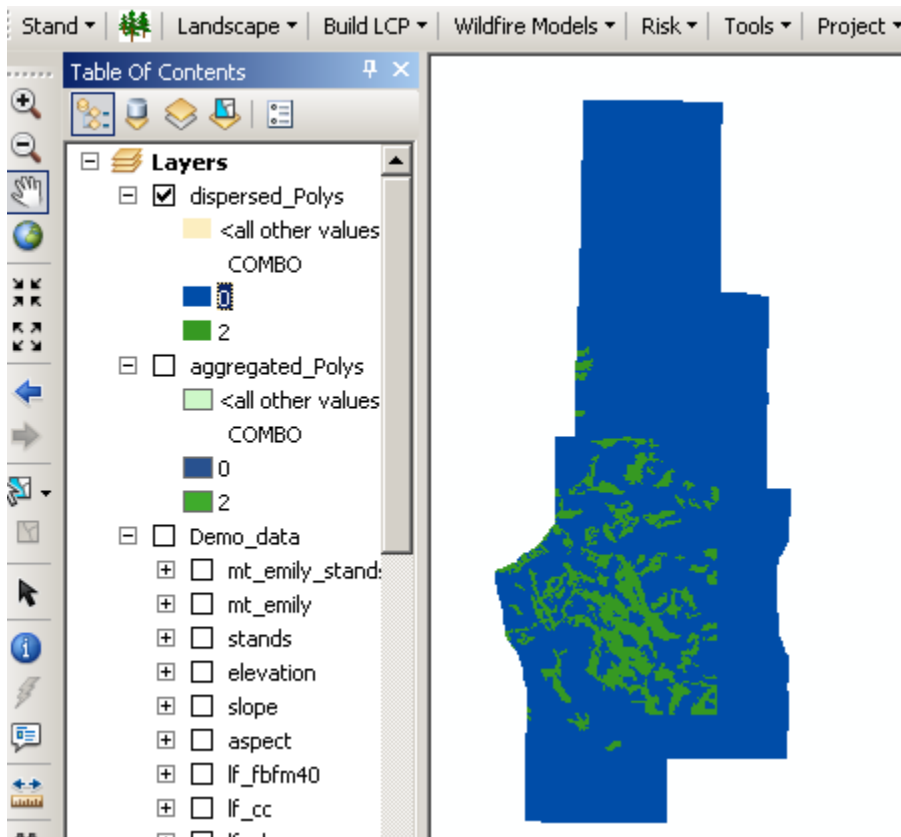

Figure 5-20—Treatment solution where green areas indicate a need for treatment.
- Map the solution (fig. 5-20). Note that this time the solutions possible are 0 and 2. Where 0 denotes not in the patch and do not treat and 2 indicates *InPatch* and *DoTreat*. Because the *Aggregate* box was unchecked, there will only be these two options no matter how complex the run, because the process is not trying to create a contiguous patch; rather, it disperses treatments across the landscape.